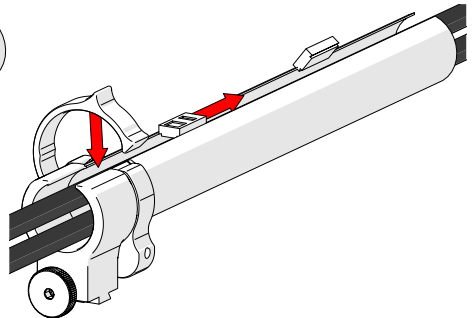

Fig. 70 - Zip up to close
2. Follow the cable placement, zipping the tube closed (Fig. 70).